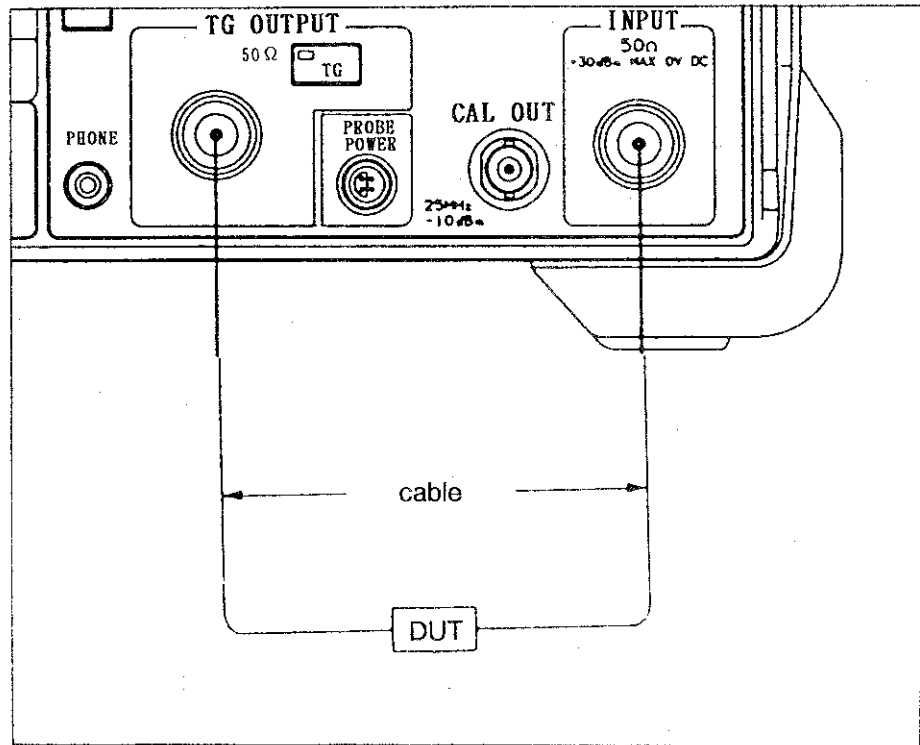

Figure 4-21 Connecting with DUT
- ④ If an error caused by the frequency response of cables spectrum analyzer etc, is not regligible,then you should compensate it as is described in step (2) later on.
- ⑤ Set up the DUT and test cable as shown in Figure 4-21.